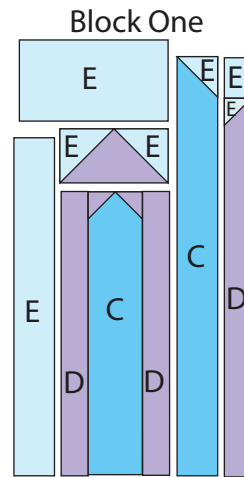

Fig. 7
- Follow Figure 7 and sew (1) 3 1/2" x 25 1/2" Fabric E strip, (2) 2 1/2" x 21 1/2" Fabric D strips, (1) DCD unit, (1) CE strip, (1) DE strip, (1) EDE unit, (1) 6 1/2" x 11 1/2" Fabric E strip and (1) 2 1/2" x 3 1/2" Fabric E strip together to make Block One.